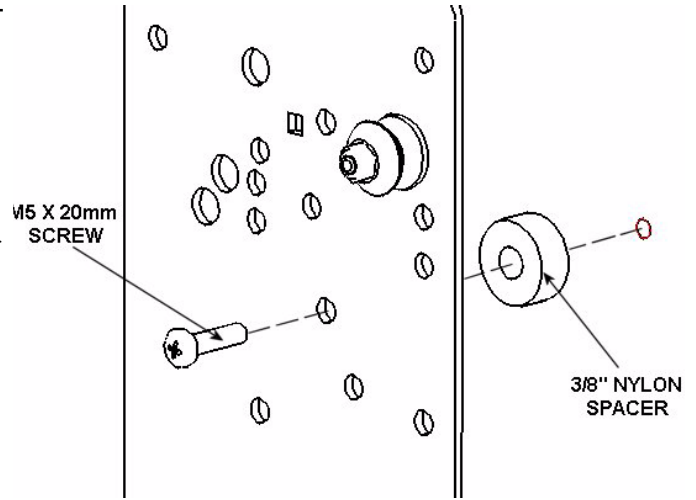
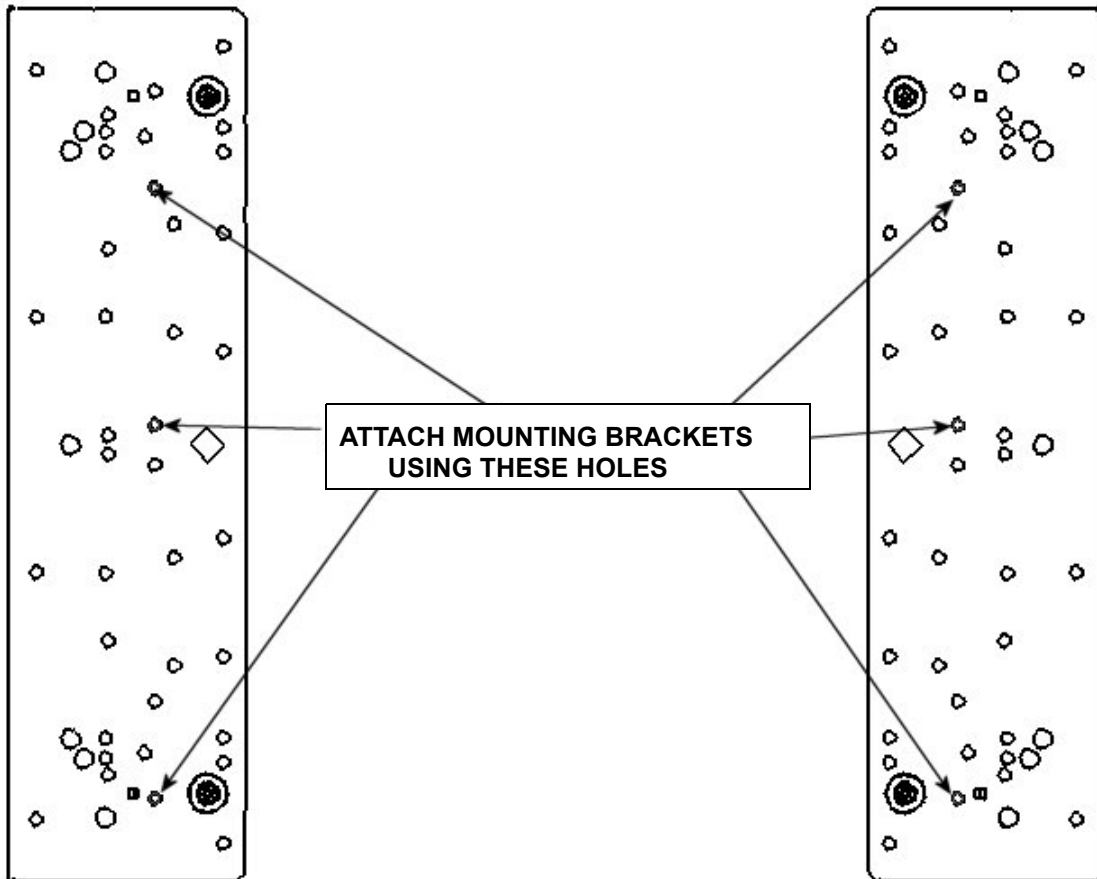

Figure 10. Spacer Installation for Group 4
Figure 11. Bracket Attachment for Group 4
4. Place the interface brackets over the Nylon spacers (see Figure 10 and Figure 11).
6. Using the hardware in the parts bag labeled C, attach the interface brackets to your display in the proper holes in each interface bracket (See Figure 10 and Figure 11). Do not overtighten the mounting screws.